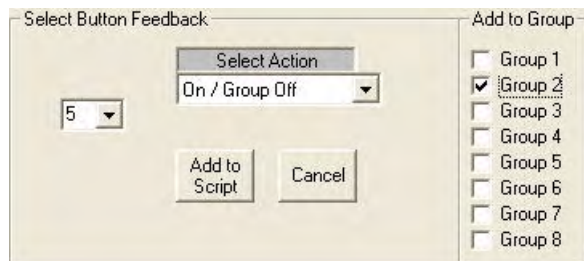

FIG. 25 Button Feedback - Button 5, On / Group Off, Group 2
5. Select Button 5, click on **Add Panel Feedback**, select **On/ Group Off**, and click on **Group 2** (FIG. 25).